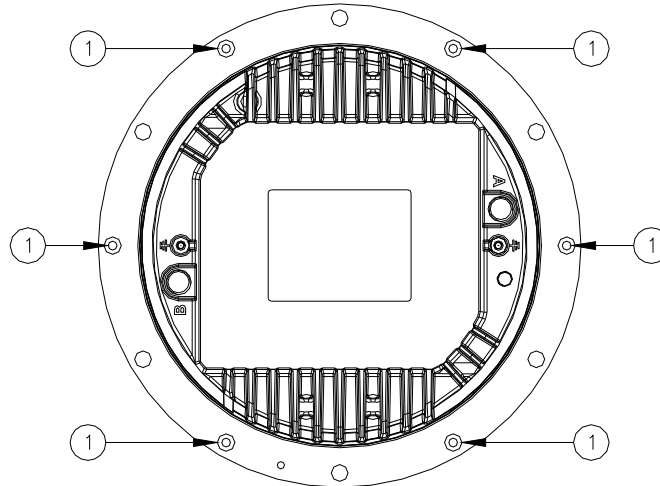

Figure 16 - Lower Cover Fixing Screws
- six locking HSFH M5x10 screws (Figure 16 - n°1);
Verify the correct position of the two O-Ring between dome and lower cover (Figure 18 – n°2 and 3); mount the lower cover on the dome and fasten it by means the six HSFH M5x10 screws (Figure 16 - n°1). One drop of anaerobic adhesive lower type (e.g. LOXEAL 24-18) should be applied to the screws before installation; tightening torque is 22 in-lbs (2.5 Nm).